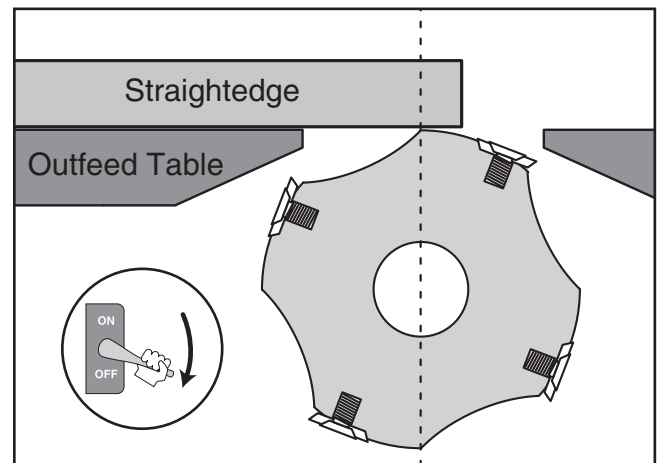

Figure 7. Checking cutterhead parallelism.
15. Using the straightedge and feeler gauge set, inspect the cutterhead parallelism with the outfeed table as shown in **Figure 7**. With the straightedge in position, raise or lower the outfeed table until the cutterhead body (not the carbide insert) just touches the straightedge.